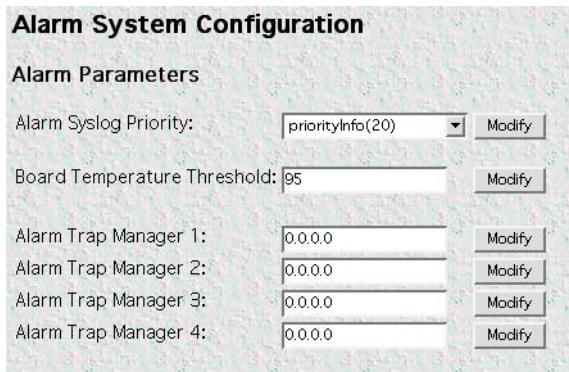

Figure 16. Alarm System Configuration window
- *Modify Parameters*—links to the *Alarm System Configuration* window (see figure 16) for configuring the alarm response system with the IP addresses of one or more administrators who should be notified in case of an alarm (refer to section “*Alarm System Configuration window*”).
Click on *Modify Parameters* (see figure 17) to open the *Alarm System Configuration* window (see figure 16). Choose the alarm response output that you wish to configure. After defining the value for a desired alarm response output parameter, click the **Modify** button to the right of the parameter you just modified.